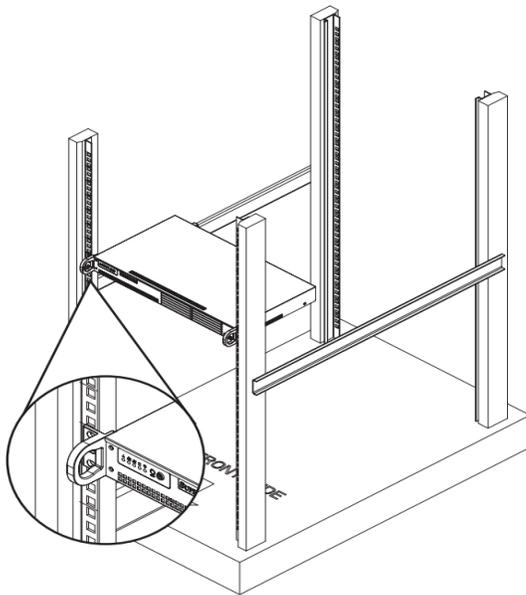

Figure 4-1: Install Chassis to Standard Rack
**NOTE:** The illustrations in Figure 4-1 and Figure 3-7 are for general guidance purposes only. Always install the Device chassis to the bottom of the rack first to avoid the rack becoming top heavy.
3. Insert the mounting screws into the thru holes in the front of the chassis and through the thru holes in the rack as shown in Figure 4-1 and Figure 4-2.